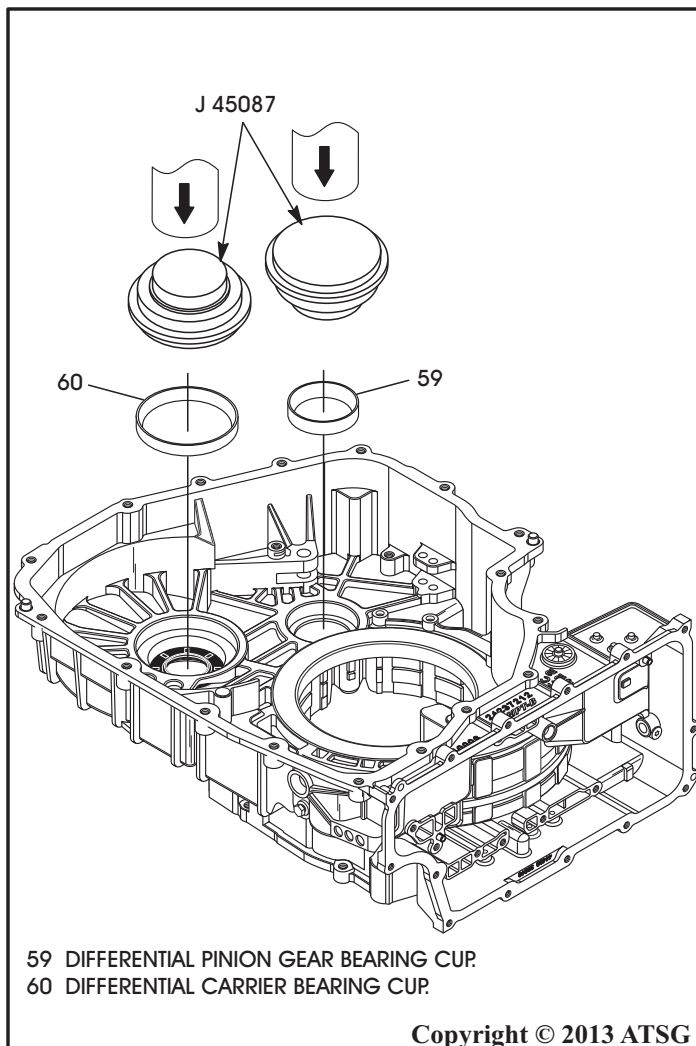

Figure 78
11. Install new bearing cups into the case using the adapter shown in Figure 78 and a hydraulic shop press. One side of the J-45087 is used for pinion cup and the other side for differential carrier cup.